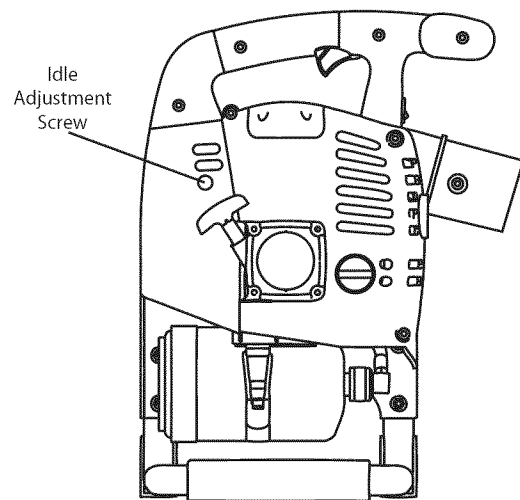

Fig. 20
The idle speed of the engine is adjustable. An idle adjustment screw is on the rear side of the carburetor (Fig. 20).
2. Release the throttle trigger and let the engine idle. If the engine stops, use a small phillips or flat blade to turn the idle speed screw in, clockwise, 1/8 of a turn at a time (as needed) until the engine idles smoothly (Fig. 20).